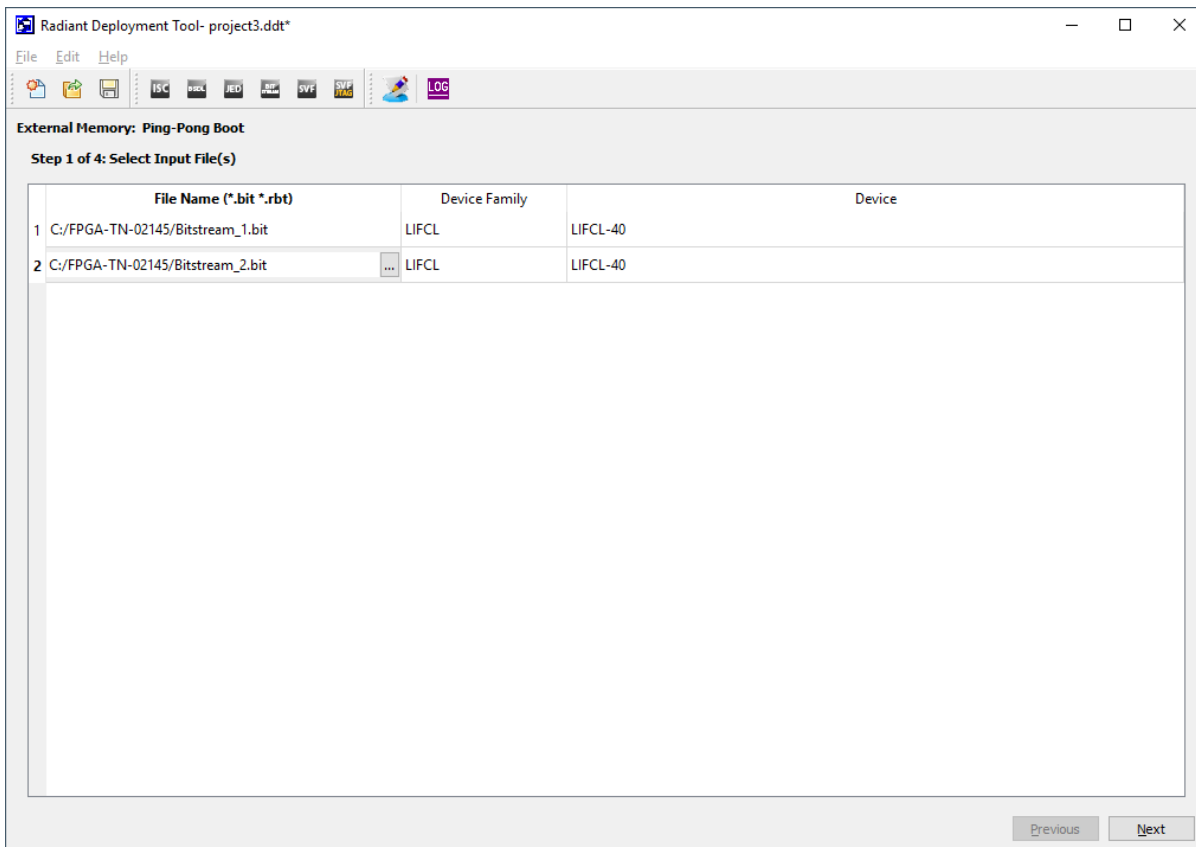

Figure 6.7. Select Input Files Window
Step 1 of 4: Select Input File(s) window (Figure 6.7)